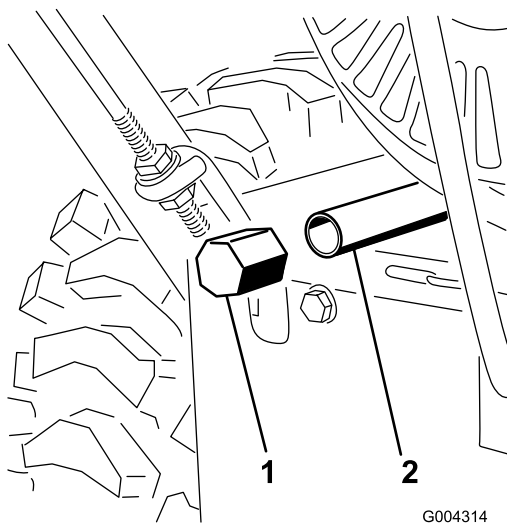

Figure 33
3. Clean the area around the oil drain plug (Figure 33).
4. Slide an oil drain pan under the drain extension and remove the oil drain plug (Figure 33).